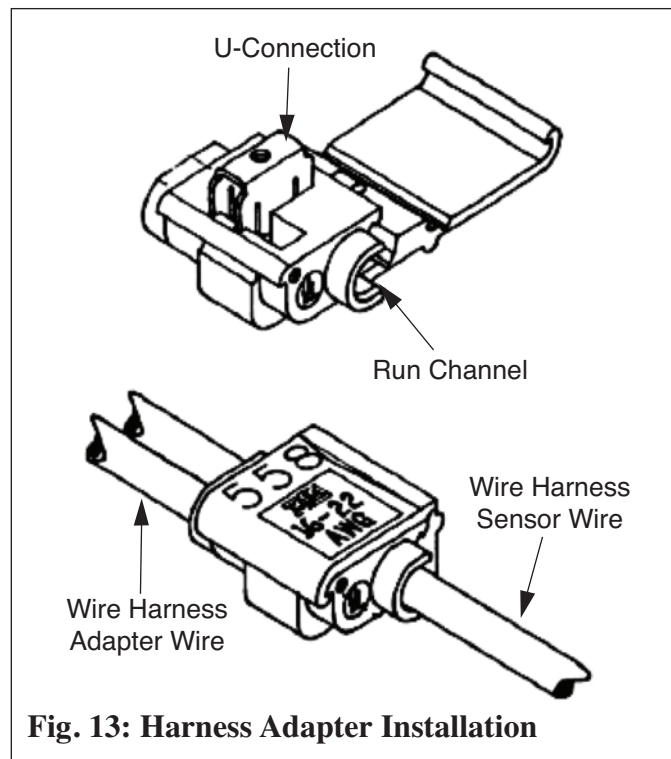

Fig. 13: Harness Adapter Installation
- Place the unstripped wire harness wire into the run channel of the Wire Tap and close the side cover (Fig. 13).